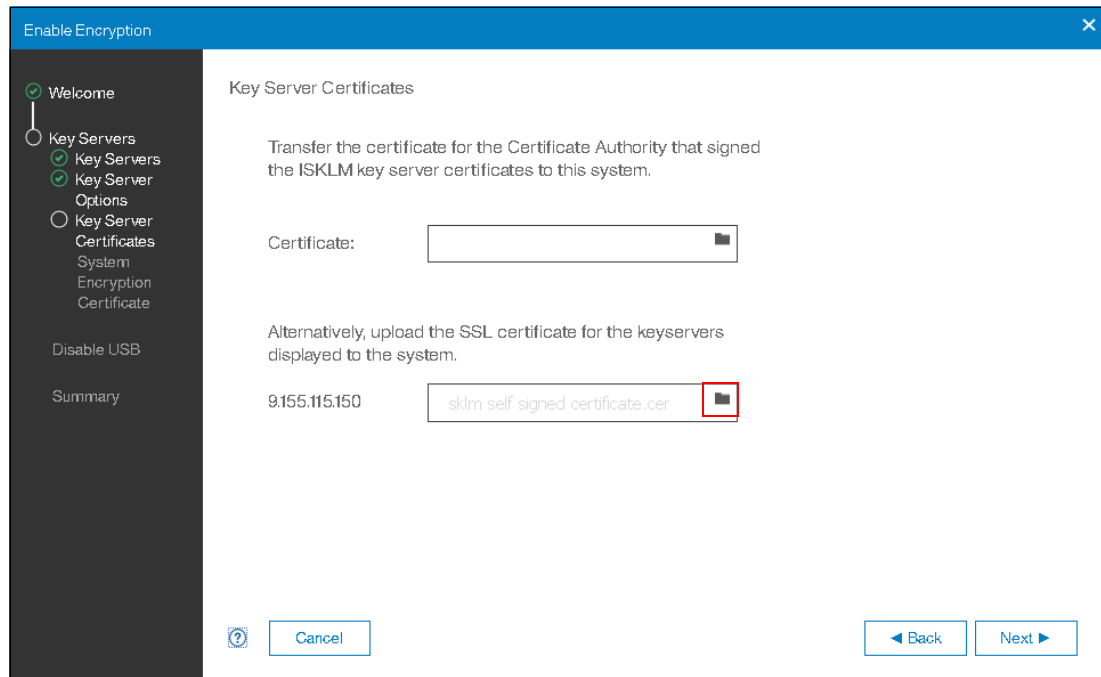

Figure 7-49 Uploading the previously exported SKLM certificate to IBM FlashSystem 900
- In the Key Server Certificate window, you must upload the necessary key server certificate to the IBM FlashSystem 900. Configuration with the self-signed certificate that was exported from the primary SKLM key server in Step 4 of this process is shown in Figure 7-49 on page 265.